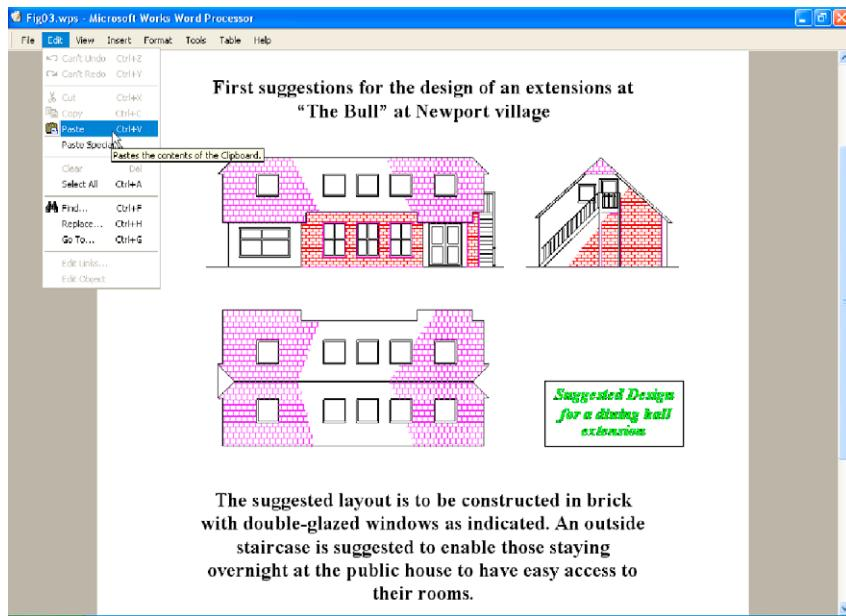

Fig. 10.2 Example – Copying and Pasting
3. Open **Microsoft Word** and click on **Paste** in the **Edit** drop-down menu (Fig. 10.2). The drawing from the **Clipboard** appears in the **Microsoft Word** document. Add text as required.